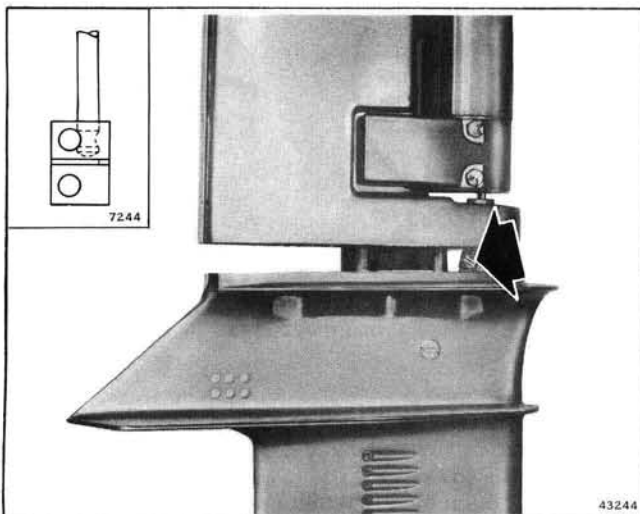

Figure 6-4. Shift Rod Connector Screw
c. Separate gearcase from exhaust housing enough to expose shift rod connector. Remove upper connector screw. See Figure 6-4.